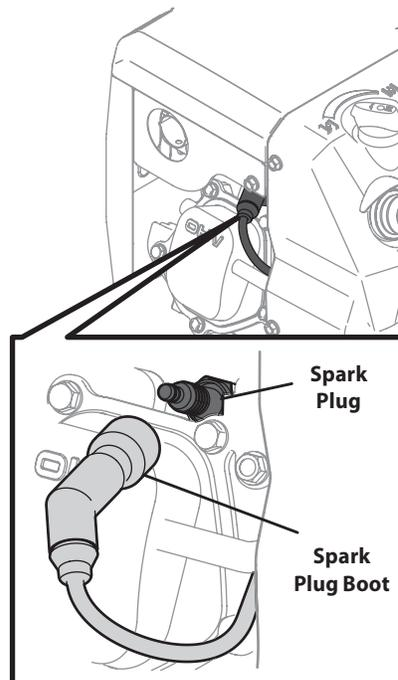

Figure 6-1
1. Carefully disconnect the spark plug wire and keep it away from the spark plug. Refer to Fig. 6-1 for spark plug location.
1. Remove the spark plug boot. See Fig. 6-1.